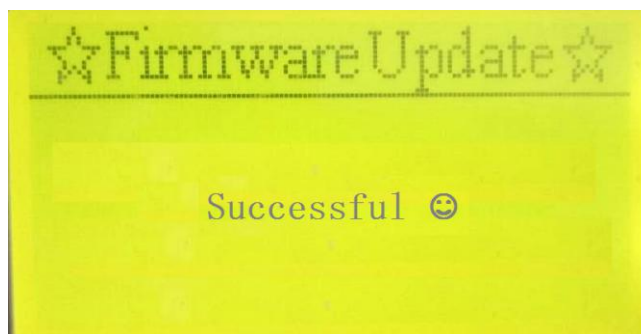

Figure 2.5
5. After successful upgrade, LCD will show as Figure 2.5